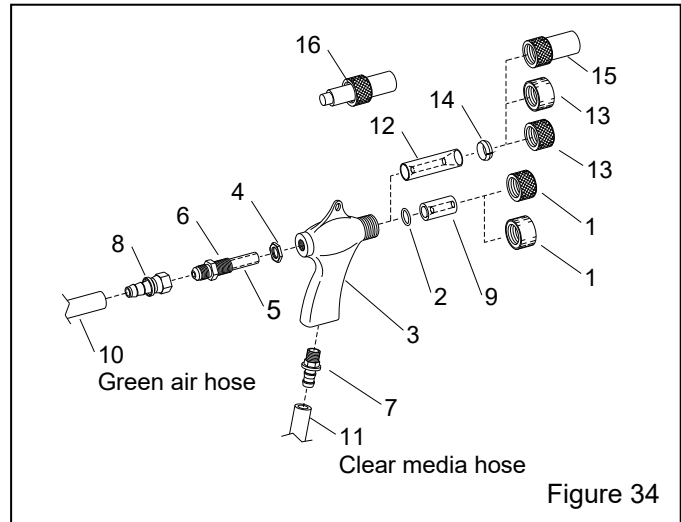

Figure 34
9.3 BNP® Gun and Hose Assembly – Figure 34